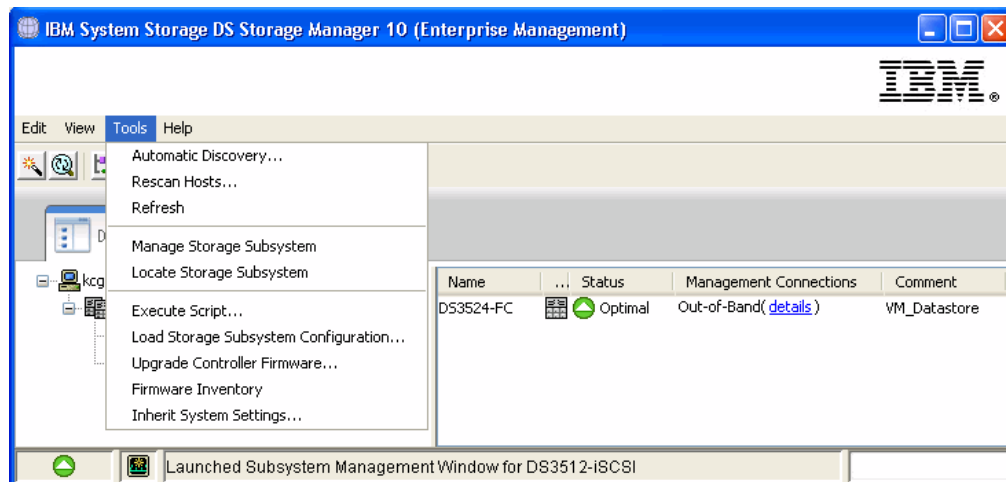

Figure 17-1 Invoke Script Editor
1. To start the Script Editor, from Storage Manager, click **Tools** → **Execute Script** as shown in Figure 17-1.